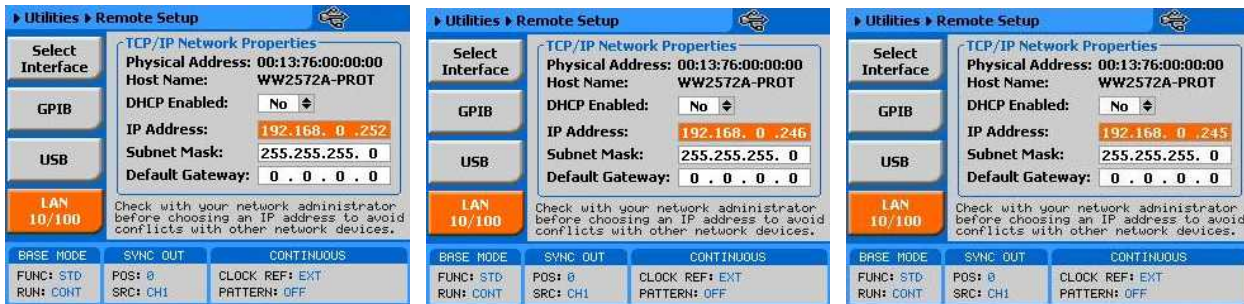

Figure 4-24, IP Address Setup Example (from left to right) Master and two Slaves
4. Turn on the instruments and set all of them up to operate from a LAN interface. Information how to set up the 2074 to operate from a LAN interface is given in Chapter 2. An example of mater and slave IP address setting is shown in Figure 4-24. The master was assigned the highest IP address ...252 and the two slaves were assigned ...246 and ...245, respectively.